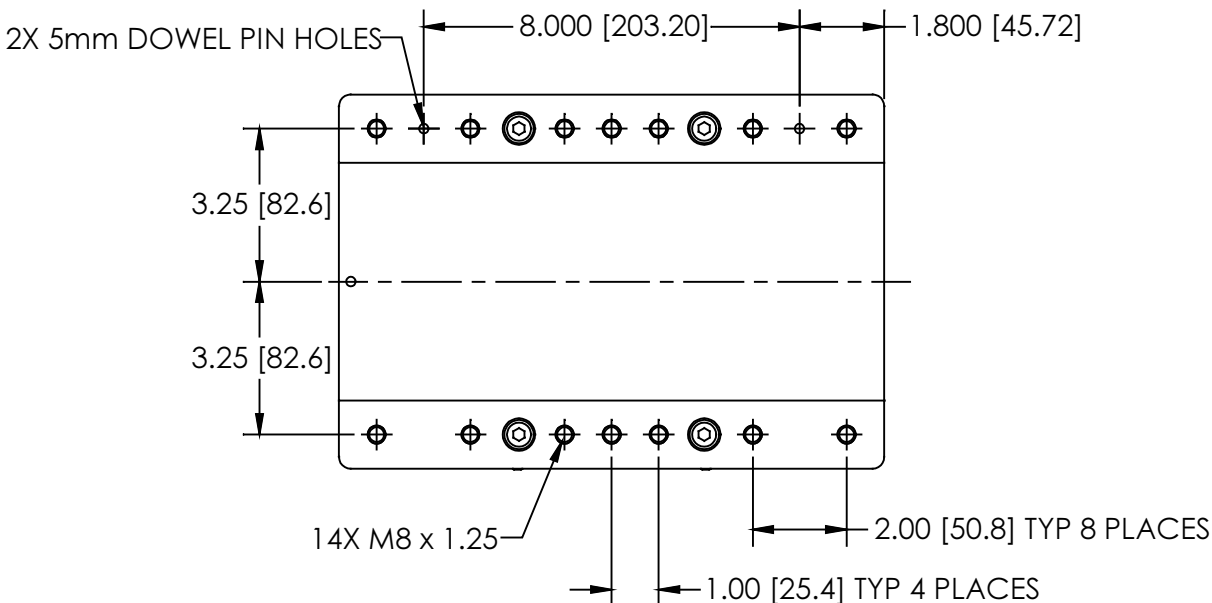

Figure 1. Carriage bolt hole pattern
The bolt pattern on the Carriage has been designed to facilitate process equipment installation. The Carriage has (14) fourteen M8x1.25 mounting holes with a depth of 0.52 inch (13 mm) to provide secure attachment points. The mounting holes are spaced as shown in Figure 1. The Carriage also has (2) two 5mm dowel pin holes to facilitate alignment. (See Figure 1 for location) These dowel pin holes are oversized to allow the pins to be glued into place using Loctite 609, or equivalent. **DO NOT press pins into the AFD Carriage as this will damage the Linear Rails.**